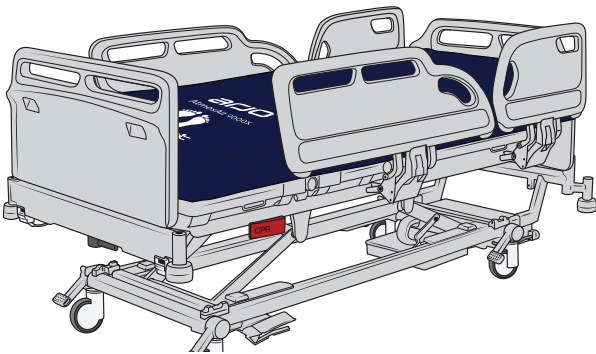

Figure 3
4. Position the mattress on the bed frame. Make sure that the mattress is orientated correctly. See Figure 3.